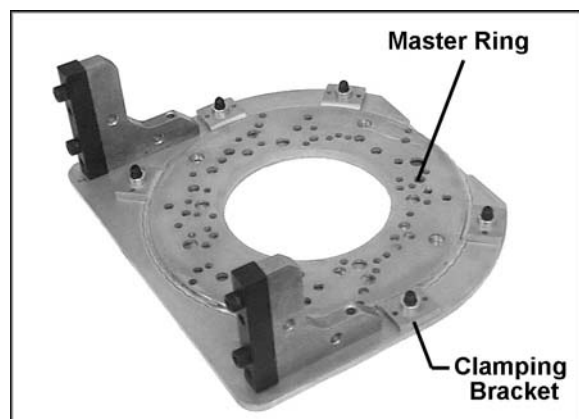

Figure 2
2. Remove the master ring from the carriage plate, by first removing the six 1/4-20 x 3/4 flat head machine screws that secure the clamping brackets to the aluminum carriage plate (Fig. 2).